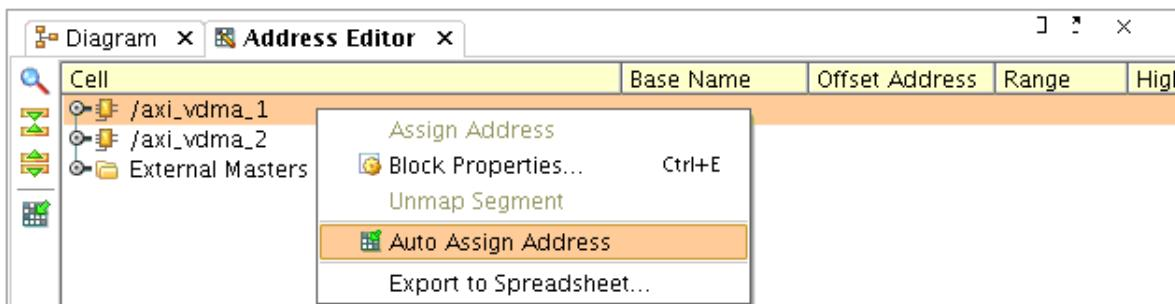

Figure 58: Auto Assign Address Option
2. Right-click the first entry, **/axi_vdma_1**, and select **Auto Assign Address**. This maps the 1 GB of DDR3 memory to the address range 0x80000000 to 0xBFFFFFFF and allows the IP integrator tool to configure the address decoders in the AXI Interconnect (Figure 58).